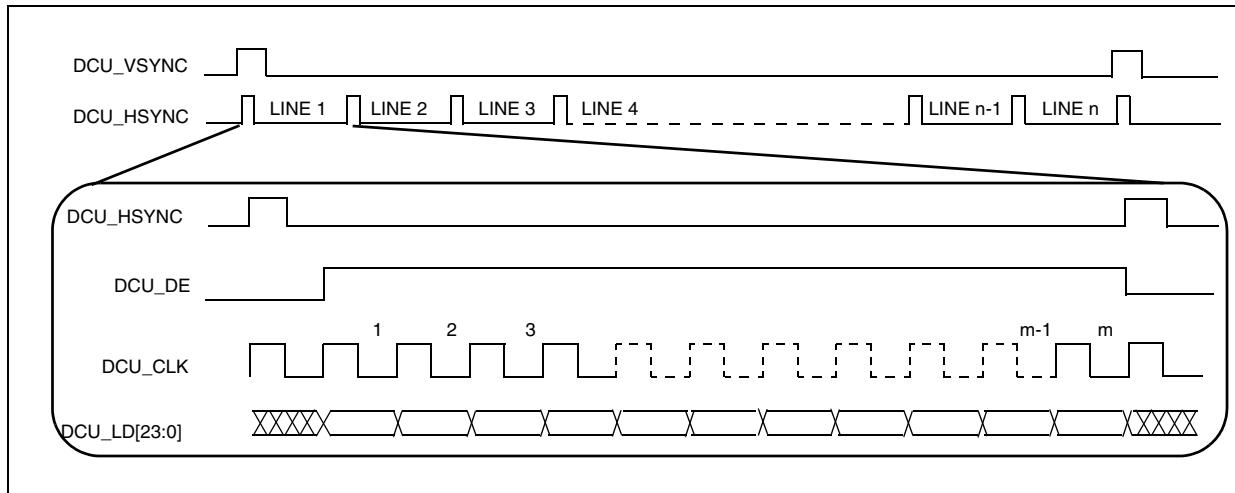

Figure 26. TFT LCD Interface Timing Overview¹
Figure 26 depicts the LCD interface timing for a generic active matrix color TFT panel. In this figure signals are shown with positive polarity. The sequence of events for active matrix interface timing is:
1. In Figure 26, the “DCU_LD[23:0]” signal is an aggregation of the DCU’s RGB signals—DCU_R[0:7], DCU_G[0:7] and DCU_B[0:7].